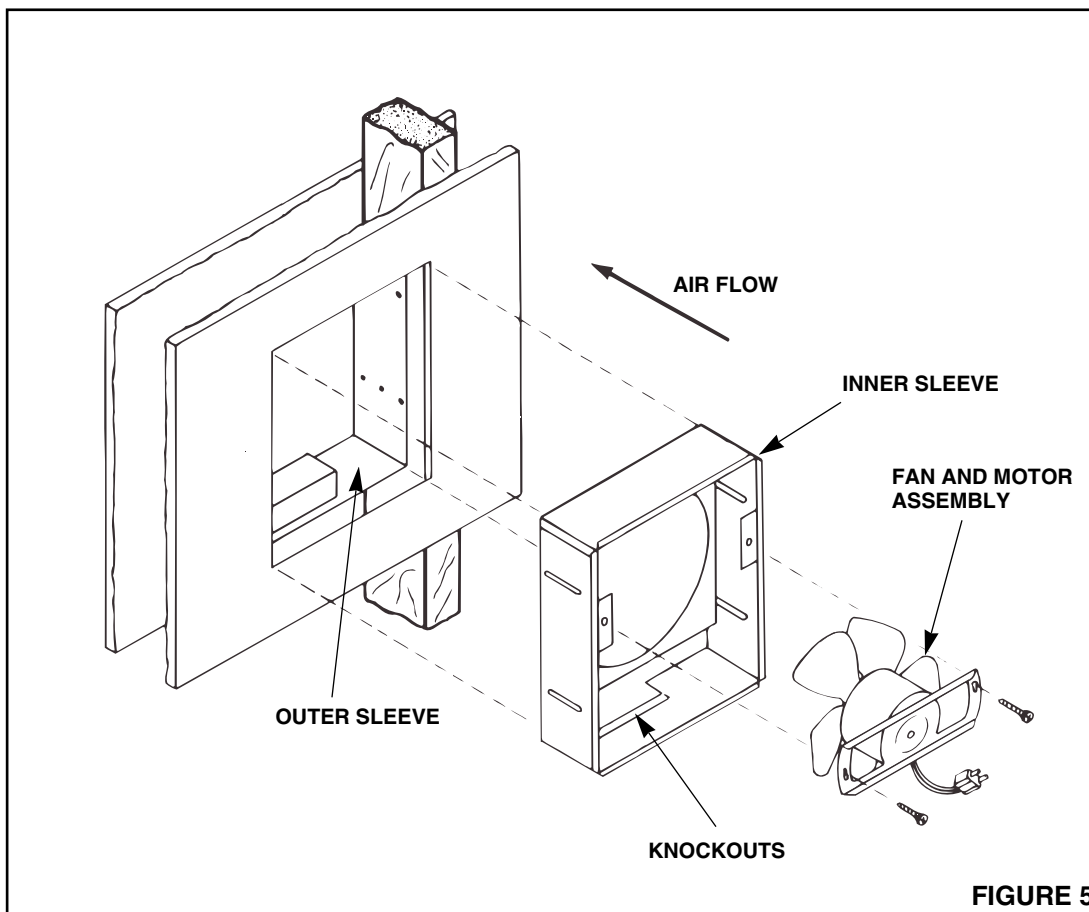

FIGURE 5
7. After inner sleeve is properly adjusted, slide it inside outer sleeve. When flanges are flush with both walls, screw sleeves together with four (4) screws.
8. **Refer to Figure 5.** Nail or screw the completed sleeve assembly to the wall stud through slots and holes in the side of sleeve.